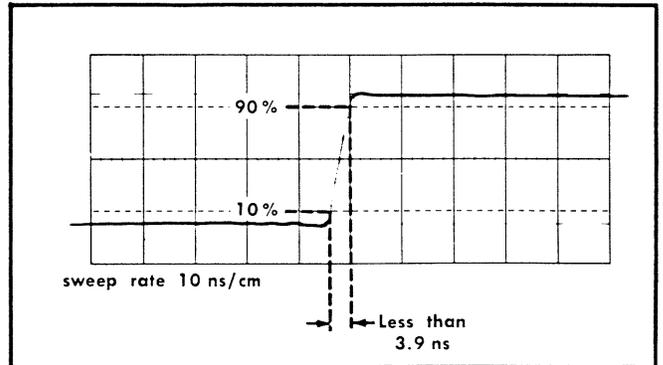

Fig. 6-42. Measuring risetime. Sweep rate 10 ns/cm.
- e. Measure the risetime. See Fig. 6-42. Risetime is ≤ 4.2 ns.